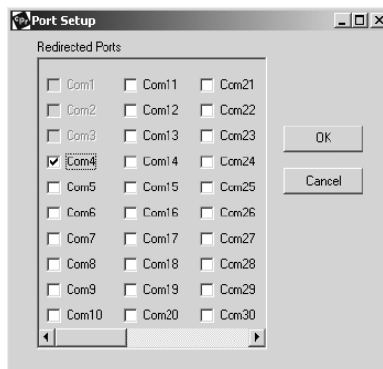

Figure 23: Port Setup Window
- Click the **Com Setup** button. A Port Setup dialog box appears (Figure 23), with the first logical communications port checked.
- The physical communication ports on the computer where the Com Port Redirector is installed are grayed-out and unavailable. In Figure 23, these are Com1 through Com3. Your unavailable communication ports may vary